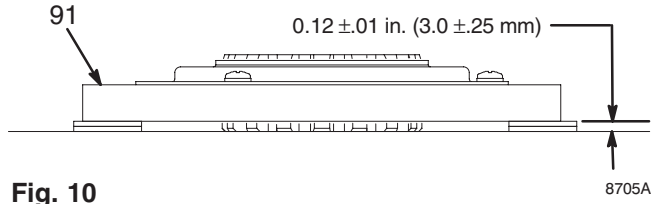

**Fig. 9** 8704A
8. Fig.9. Use an impact wrench or wedge something between clutch and clutch housing to hold clutch during removal.
9. Remove four screws (50) and lockwashers (53).
10. Remove clutch (91).